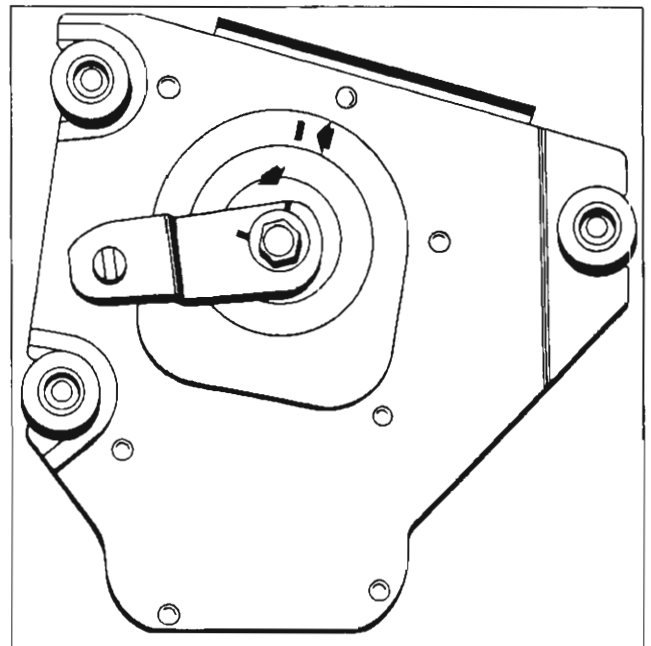
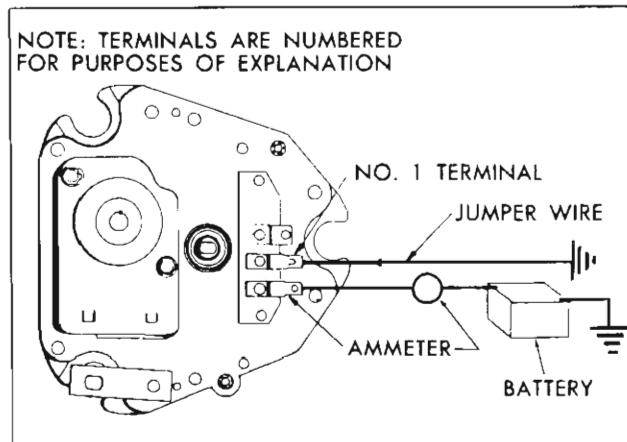

Fig. 67—Wiper Crank Arm in Park Position
Fig. 75—Checking Single Speed Wiper Circuit
1. Place wiper in park position and install crank arm output shaft, rotate crank so alignment marks line up with those on cover (fig. 67).
F. Wiper Shuts off Before Crank Arm Reaches Park Position	<p>Wiper crank arm stops rotating immediately when jumper wire is disconnected from wiper terminal No. 1 (fig. 75).</p> <p>NOTE: When crank arm has reached park position the crank arm index grooves will lineup approx. with the ridges on the gear box cover (fig. 67).</p> <ol style="list-style-type: none"> 1. Check for dirty, broken or bent part switch contacts.